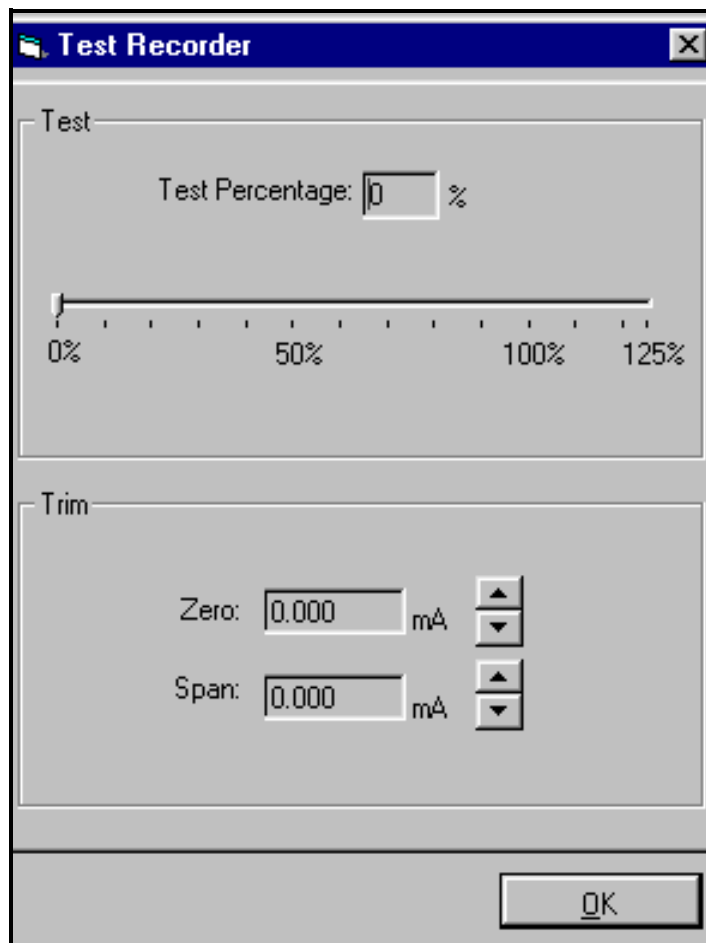

Figure 53: Recorder Test Window
2. The “*Test Recorder*” window appears, as shown in Figure 53. At the top, slide the pointer to the desired percentage of the full scale recorder range, and click on [OK].